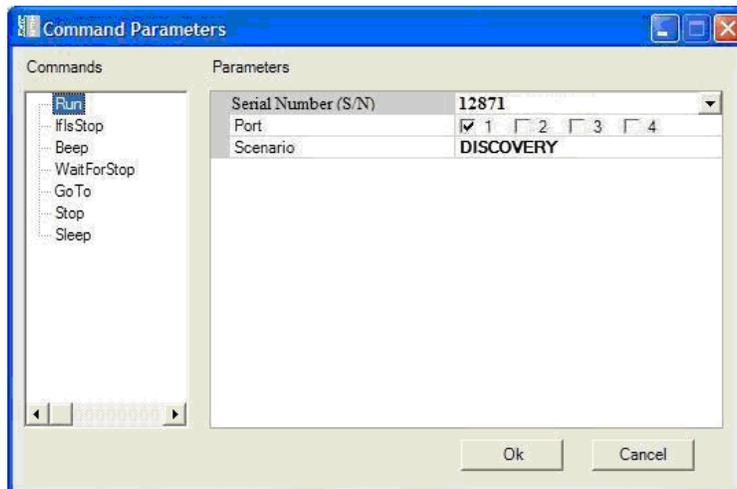

Figure 4.46: Command Parameters Dialog
3. First, click **Click here to add script command** to open the Command Properties dialog (see Figure 4.46 on page 283).